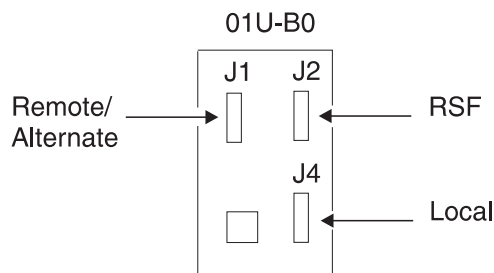

Figure 2-3. Console Output
- A console wrap plug should be installed on the 3745 console connector, (see Figure 2-3). , or at the far end of the cable which should be disconnected from the relevant console/modem.
- Install a console wrap plug on the 3745 console connector (see Figure 2-3). Use wrap plug PN 6398697. Refer to Step 6 on page 3-23 to repeat the test. Return here.
– Install a console wrap plug on the 3745 console connector (see Figure 2-3 on page 2-9). Use wrap plug PN 6398697. Refer to Step 6 on page 3-23 to repeat the test. Return here.
- Install a console wrap plug on the 3745 console connector (see Figure 2-3 on page 2-9). Use wrap plug PN 6398697. Refer to step 6 on page 3-23 to repeat the test. Return here.